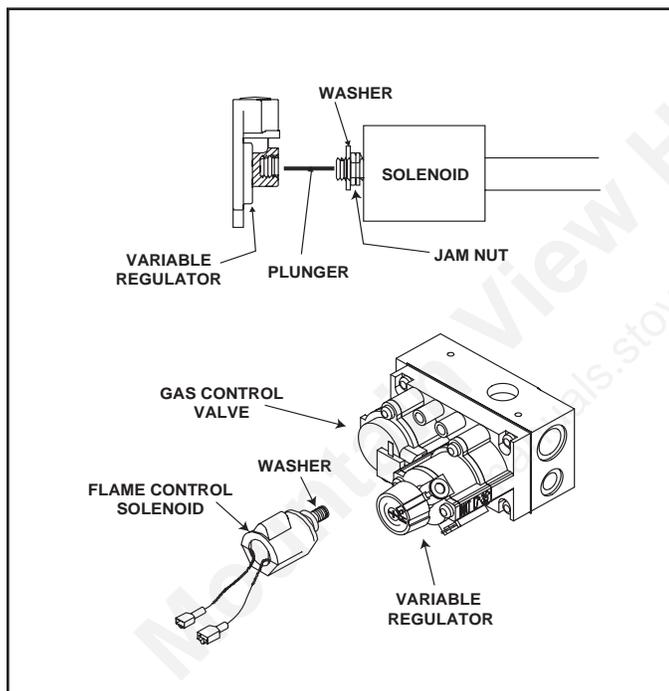

Figure 18.
1. Install the solenoid See Figure 18.